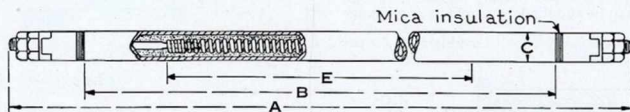

Fig. 3
Note:—When Calrod units are equipped with mycalex seals, the listed "A" dimension in Fig. 1 or Fig. 3 is decreased one inch.
* When mycalex seals are added to standard Calrod units, deduct 1 in. from the listed "A" dimension in Fig. 1 and Fig. 3.